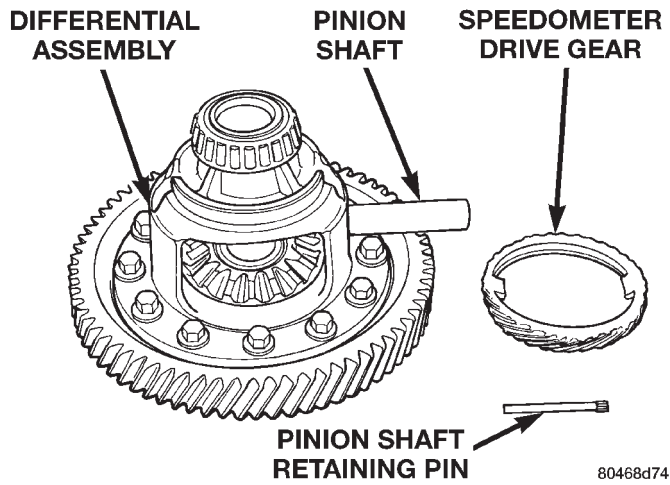

Fig. 119 Pinion Shaft Removal
(2) Remove pinion shaft (Fig. 119).